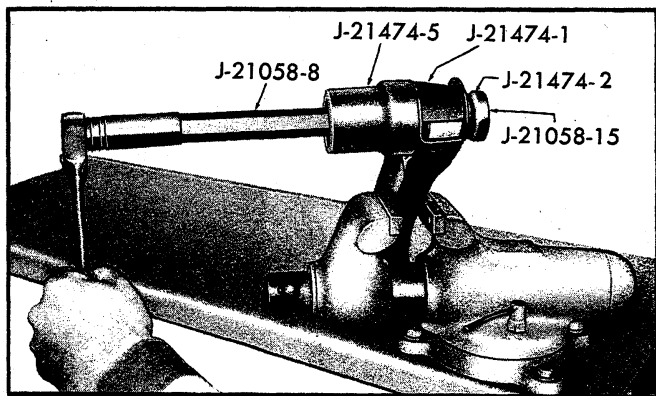

Fig. 37—Control Arm Bushing Removal (Chevelle)
- b. Place Puller Screw J-21058-15 through Puller Adapter J-21474-2. Position puller screw through small end of bushing then install Receiver J-21474-5. Thrust Bearing and Nut J-21058-8 (in that order) onto puller screw. Install Spacer J-21474-1 between sides of control arm and over bushing so that spacer follows contour of bushing. Refer to Figure 37 for installation of removal tools.